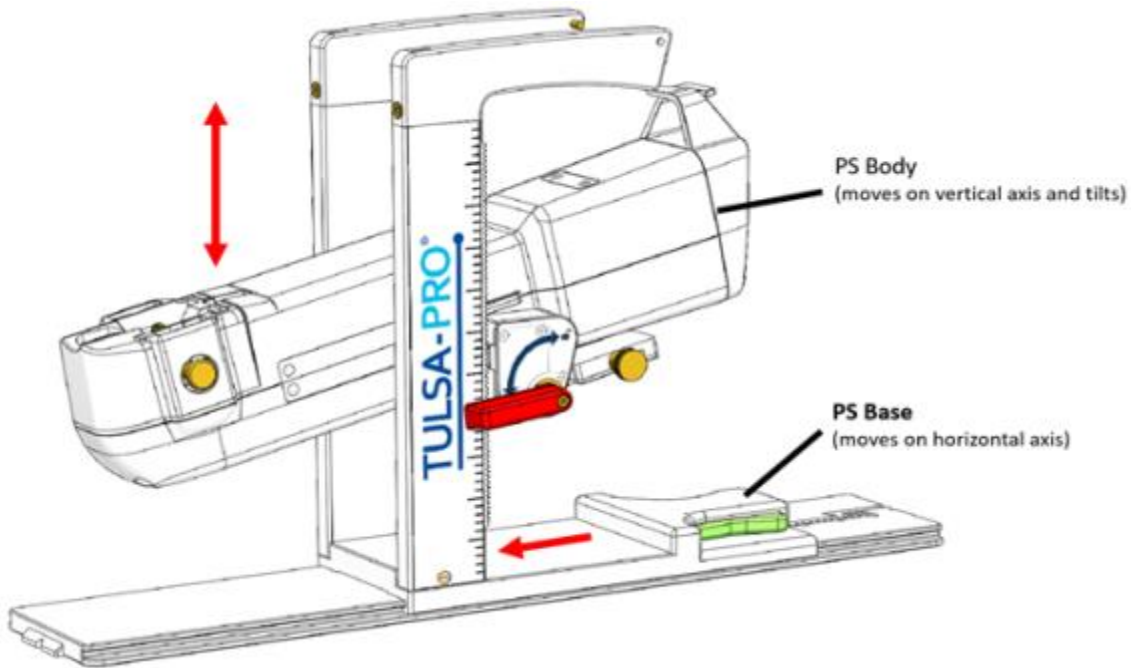

Figure 22: Adjusting the Positioning System
3. MRI Technologist: Manually move the PS into position so that the UA gripper aligns with the natural angle of the UA in the patient. Manually adjust the base of the PS forward and backward and up and down, and tilt the linear axis of the PS up and down (*Figure 22*).
NOTE: The PS adjustment knobs and levers are not colored as in *Figure 22*, but are colored here to help with these instructions.